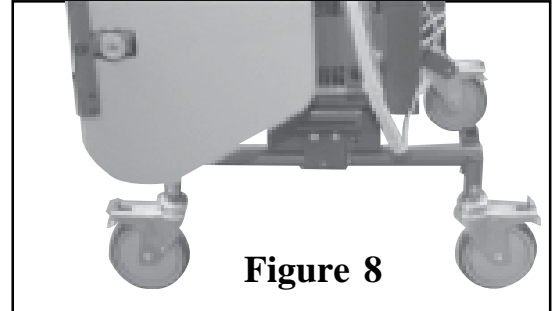

Figure 8
2. **WARNING:** Lock the four transport casters to prevent the bed from moving when you unfold the head and foot sections as movement could cause injury. The locked casters should be facing outward and be perpendicular to the centerline of the bed for storage (see figure 8).